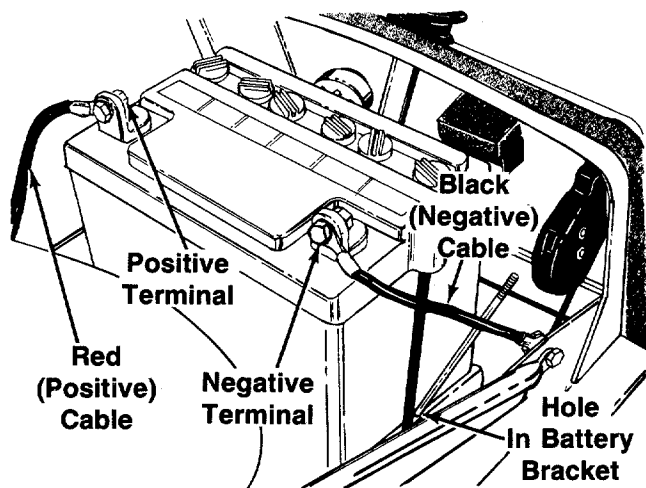
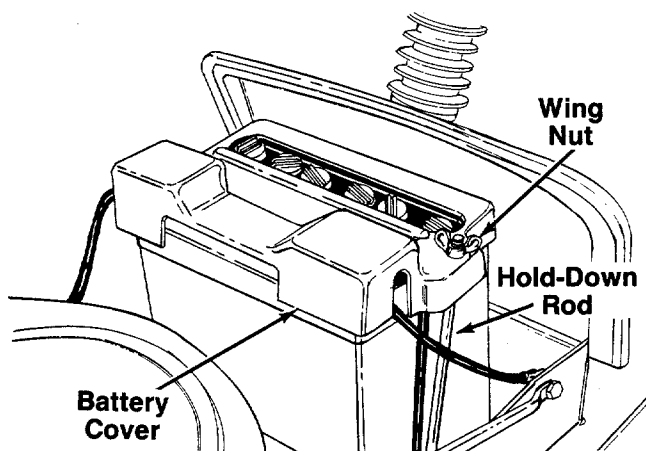

FIGURE 6.
FIGURE 7.
← See figure 6.
3. Attach the positive cable (heavy red wire) to the positive battery terminal (+) with hex bolt 5/8" long, 1/4" lock washer and hex nut. See figure 6.
5. Hook one hold-down rod into the hole in the edge of the battery bracket beside the battery. See figure 6. Place the black plastic battery cover in position over the hold-down rod. Secure with wing nut. Attach other hold-down rod to the other side of battery cover in the same manner. See figure 7.